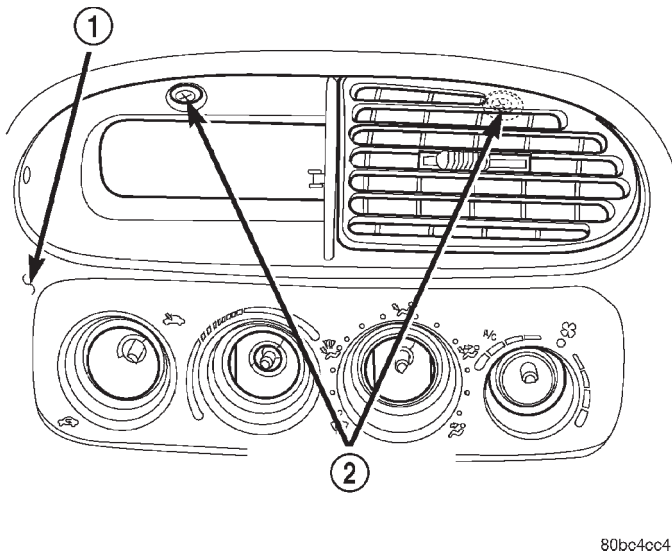

Fig. 12 Center Instrument Bezel Retaining Screws
(17) Remove the (2) screws from the center instrument bezel (Fig. 12).
(18) Remove the center instrument bezel. Gently pull it straight out to unsnap the (4) retaining clips.
(19) Remove the (2) HVAC control head retaining screws. Pull the control away from the I. P. and rotate the control horizontally to position the assembly through the hole in the instrument panel. This will eliminate the need to disconnect the control cables.
(20) Unclip the Data Link Connector from the right side of the I. P. frame.
(21) Disconnect the instrument panel wire harness from behind the right kick panel. To disconnect the harness remove the (2) screws retaining the I. P. connector to the steering column casting. Remove the plastic clips from the connector retainer. Unclip the bottom retainer and slide the mated I. P. and headlamp connectors out of the holder. Disconnect the I. P. wire harness connector.
(22) Disconnect the (3) wire harnesses from the top of the I. P.
(23) Unclip the wire harness along the center console and disconnect the airbag control module, parking brake and PRNDL lamp if equipped.
(24) Gently pry the right front door wire harness boot away from the A-pillar to access and disconnect the right door wire harness connector.
(25) Gently pry the left front door wire harness boot away from the A-pillar to access and disconnect the left door wire harness connector.
(26) Disconnect the radio antenna. Located below the glove compartment.
(27) Remove the (4) I. P. retaining fasteners from the top of the I. P.